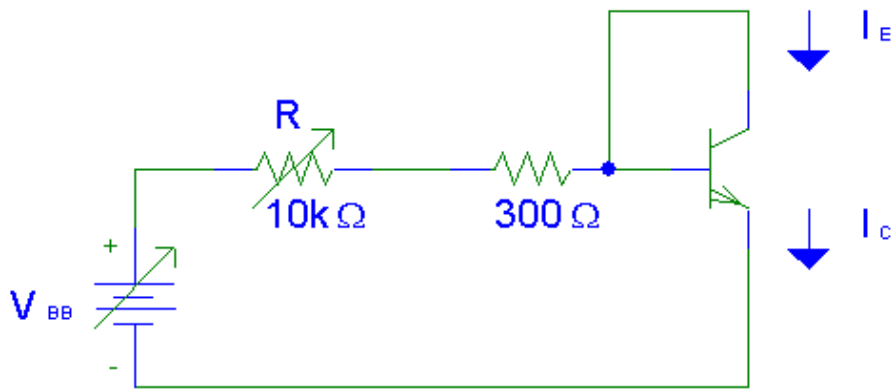

Figure 4
- Construct the circuit of Figure 4 and determine the parameters $\beta_F = I_C/I_B$ and $V_{BE,on}$ as a function of collector current I_C . Use I_C values of 0.5, 1, 2, 5, 10, and 20 mA. Adjust R and V_{BB} to set the I_C values. Fill in the table below with the values obtained in the experiment.
A simplified equivalent circuit for finding the output high voltage V_{OH} assuming a fan-out of N is shown in Figure 4. This equivalent circuit is obtained by replacing the N load transistors by a resistance R_B/N in series with an ideal diode having a voltage drop equal to $V_{BE,sat}=0.75V$. From this equivalent circuit (using KVL involving V_{CC} , R_C , R_B/N and $V_{BE,sat}$), we obtain